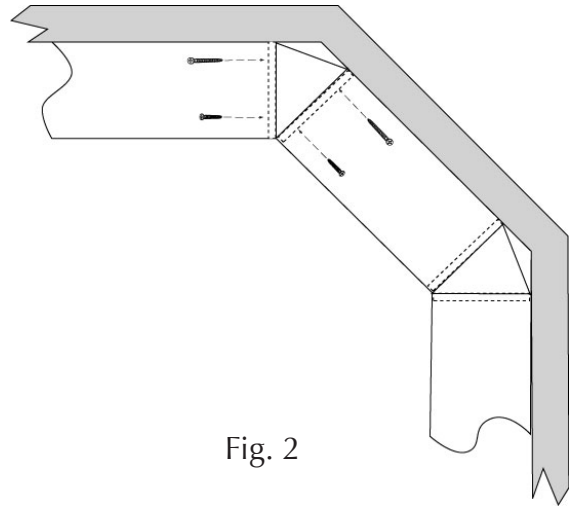

Fig. 2
4. Secure one wedge to the upper portion of the partition 14" down from the top and one to the lower portion of the partition (14" from the bottom). Fasten each wedge to the partition with the panel lying on the floor, using one (1) #8 x 1-1/4" wood screw through a front system hole into the wedge edge and one (2) 4.5 x 60 mm (2-3/8") Screw through the back system hole. (See Fig. 3.) (As fast caps will not fit over these screws and the system holes, we recommend countersinking these screws into the system holes.) (See overhead view, Fig. 2.)